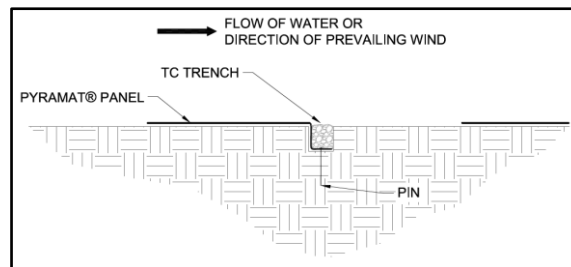

**Figure 16: Top of Bank (COS) Trenches Complete**
- Starting with the downstream end of the site select one of the COS trenches to begin the *PYRAMAT LAYDOWN* process. To ensure proper anchoring of the overlapped areas the proceeding roll width must be laid out before the current roll width can be anchored with exception to the final roll width at the TC trench. For straight sections of a channel, PYRAMAT panel lengths should be long enough to construct both COS trenches while also covering the surface of the channel being armored. (Figure 16) Panel edges should rest perpendicular to the channel center line. For best results, panels of PYRAMAT should be continuous and free from seams or roll end overlaps that are parallel to the centerline of the channel. Panel edge overlapping should follow a pattern of placing each proceeding panel's edge ovetop the previous panel edge, shingling the panels in the direction of the water flow.
11. Secure PYRAMAT with pins in the opposite COS trench. Suggested placement of pins for the opposite COS trench is along the bottom of the trench on 12 in (300 mm) centers (Figure 16).
12. Backfill and compact the opposite COS trench in the location of the first PYRAMAT panel only (Figure 16).